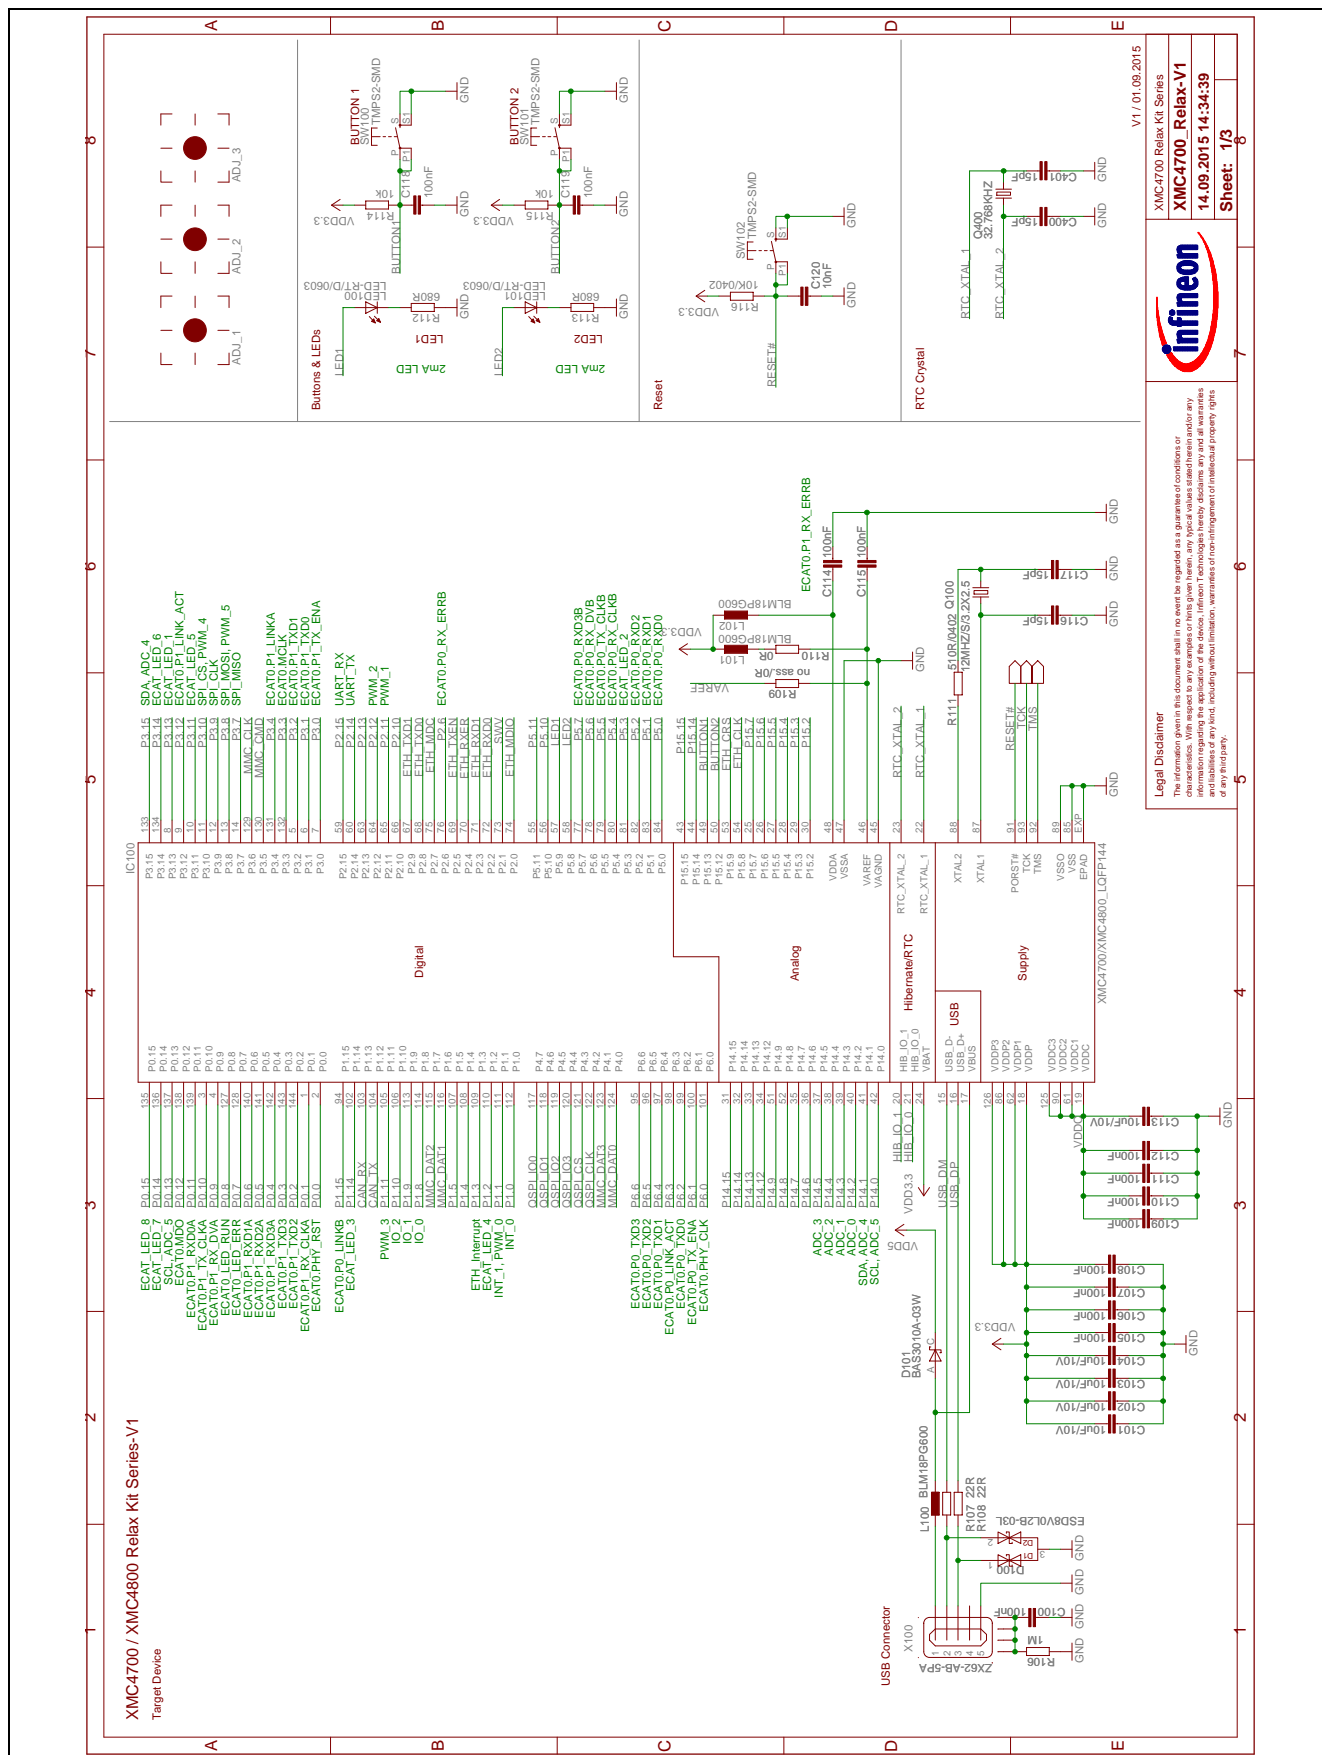

Figure 9 Relax Kit Schematic: MCU, Push Buttons, LEDs, Reset Button, Crystals, USB
- Figure 9: Relax Kit Schematic: MCU, Push Buttons, LEDs, Reset Button, Crystals, USB